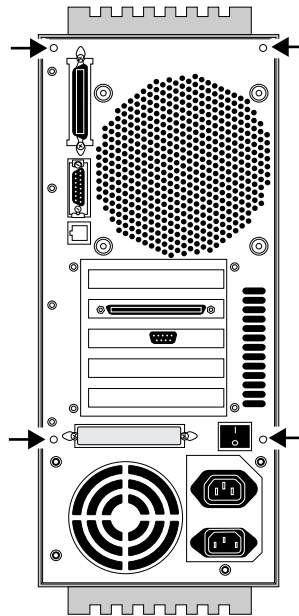

Figure 5-2 Fiery XJ-R/R2 back panel screw locations
2. *Remove the four screws on the back of the Fiery XJ-R/R2 chassis (see Figure 5-2 on page 5-4).*
4. **Replace the four screws at the back of the Fiery XJ-R/R2 chassis (see Figure 5-2 on page 5-4).**